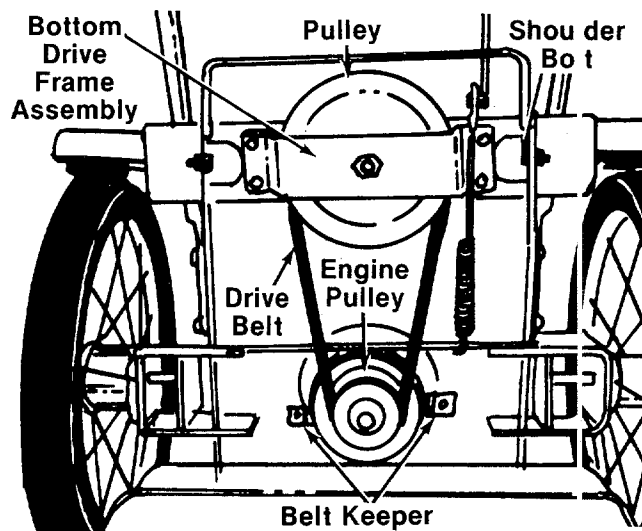

FIGURE 19.
### Drive Belt (See Figure 19)
1. Unhook the spring. Remove the shoulder bolts, lock washers and hex nuts which secure the drive mechanism to the frame. See figure 19.
2. Remove the drive belt from the engine pulley. See figure 19.
3. Remove the belt keeper from each side of the engine pulley. See figure 19.